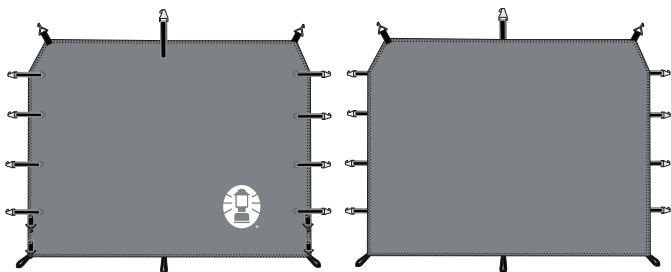

Fig. 1
1. Unfold sidewall with the "Lantern" logo facing outside. Stretch elastic straps and hook clips at the two top corners of sidewall to the metal rings on the top of two frame posts. (Fig. 1 & 2)